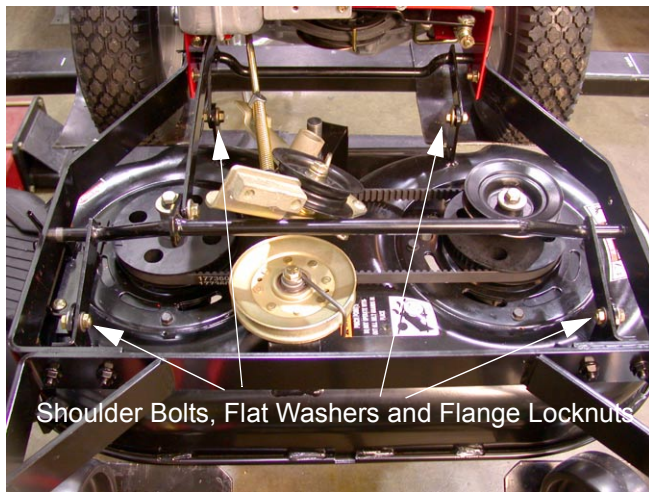

Figure 35
- 11.9. Using a 9/16 inch socket and open end wrench, remove the four shoulder bolts, flat washers and flange locknuts securing the deck to the lift assemblies. See Figure 35.